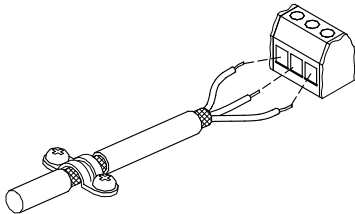

Fig. 44 Example of stripped cable with screen
- Leave the screen as close to the connecting terminals as possible. See fig. 44.